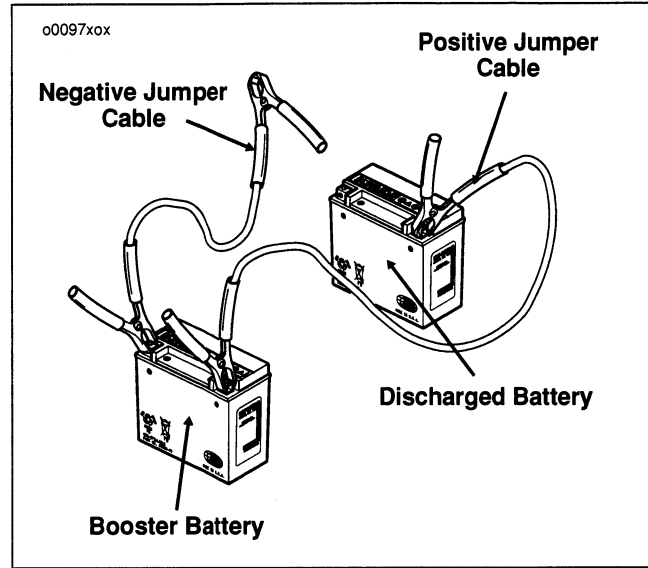

Figure 54. Jump Start Cable Connections
2. See Figure 54. Connect one end of a jumper cable to the **DISCHARGED** battery positive (+) terminal.